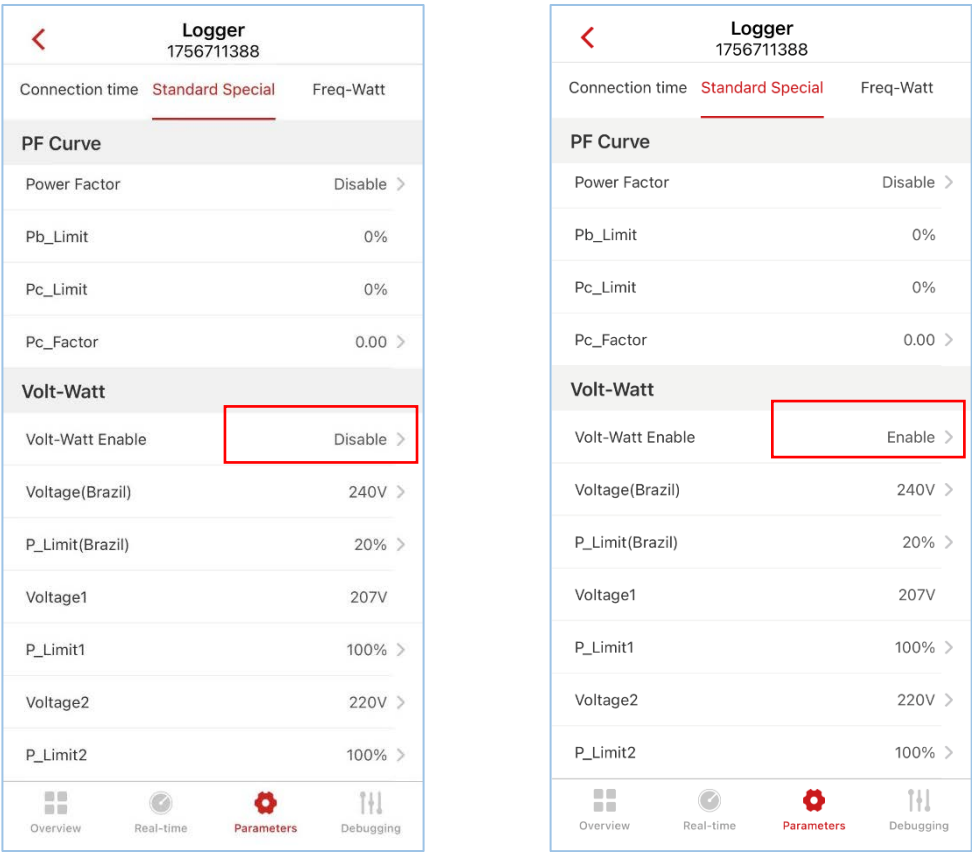

FIG. 9.5 Power Derating for Voltage Variation (Volt-Watt mode)
a) Power derating for voltage variation (Volt-Watt mode), as per FIG. 9.5